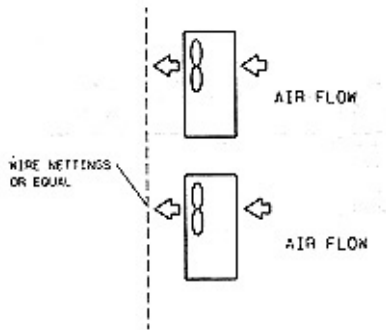
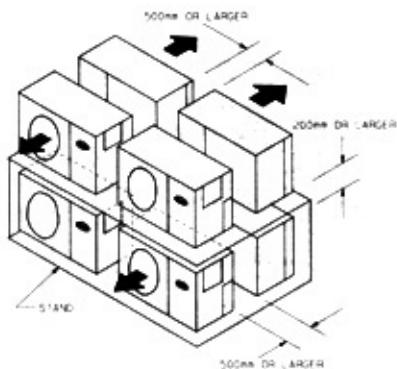

FIG. 6 ROOF MOUNTING
FIG. 7 MINIMUM SPACING REQUIREMENT
3) MOUNTING ON ROOF - Mount on a level platform or frame. When multiple unit are installed, the air outlet side should be opened as shown in Fig. 6. When installation base is used, secure the following space as per (Fig. 7). Manufacture the stand so that it will have sufficient strength.